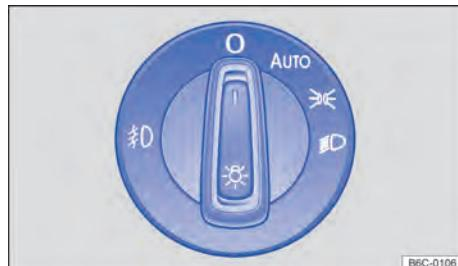

Fig. 61 Next to the steering wheel: light switch.
The indicator lamp  in the light switch → Fig. 61 indicates that the fog light is switched on.
- Turn on the fog light : pull the light switch → Fig. 61 from position  or  until reaching the first position.